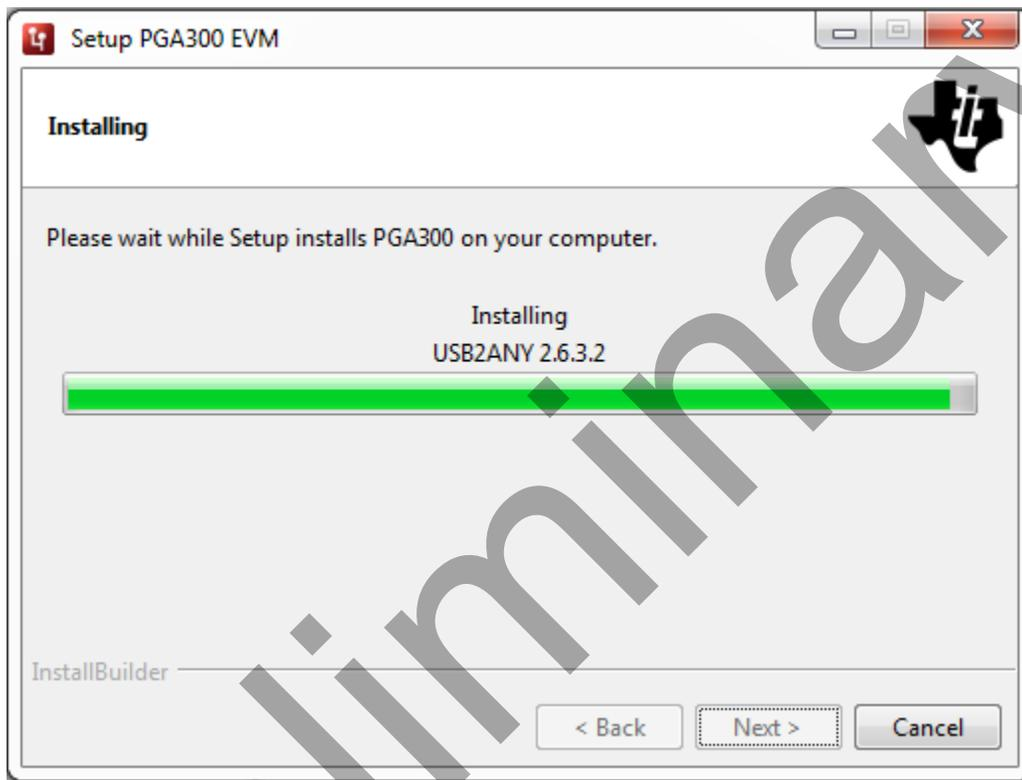

Fig 7: Installation in Progress
- The installer will begin self-extraction and proceed with the installation as shown in *Fig 7: Installation in Progress*.